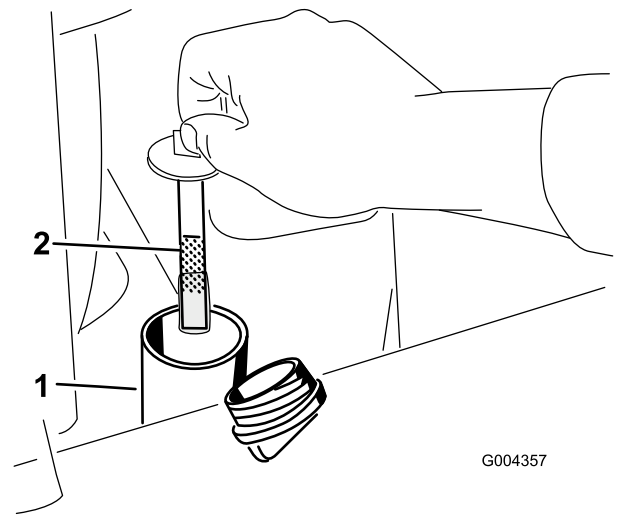

Figure 19
6. Remove the cap from the filler neck and check the fluid level on the dipstick (Figure 19).